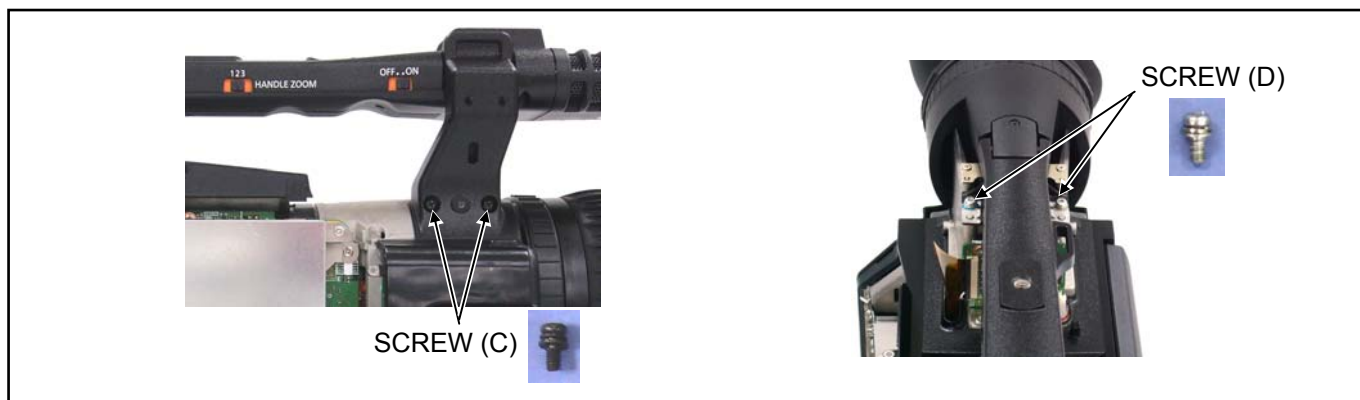

Figure 7-5
6. Unscrew the 2 screws (C) and 2 screws (D) and then remove the Handle Ass'y as shown in figure 7-5.